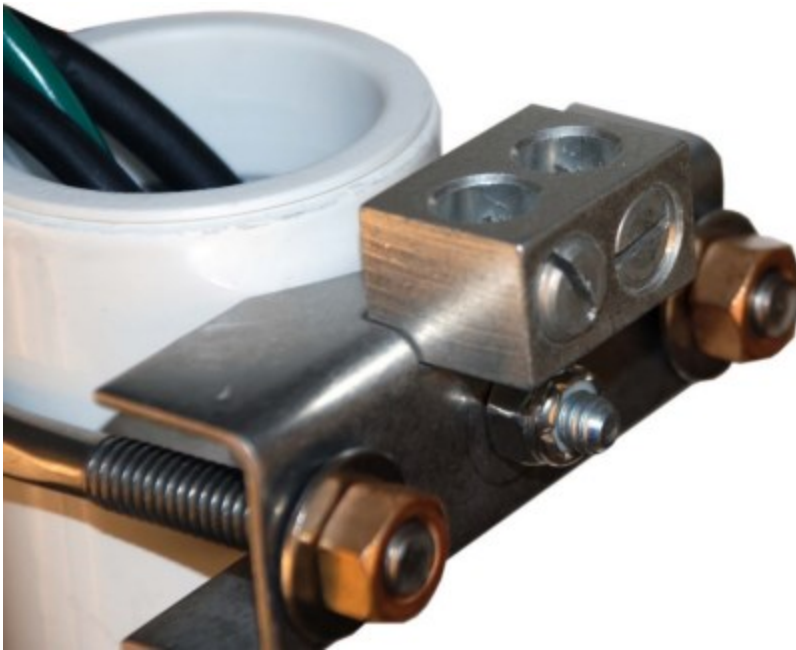

FIGURE 6-38. Lightning rod bracket installation
Install lightning rod as shown in FIGURE 6-38 (p. 52) and FIGURE 6-39 (p. 52).
1. Carefully mount the lightning rod clamp to the top of the pole (FIGURE 6-38 (p. 52)). Position the clamp so it won't interfere with the connector cover.